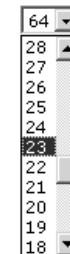

Figure 6-20 — Volume Steps drop box
4. Click the Volume Steps (64 Max) drop box. A drop-down scroll box appears (figure 6-20).